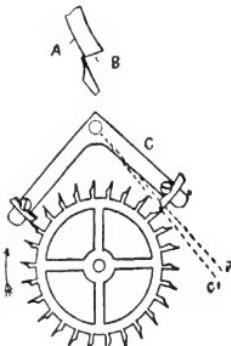

FIG. 62.—Vienna Regulator Dead-beat Escapement.
• The escapement is a "dead-beat," that is, between each beat the escape wheel stands still, the teeth points resting upon the "dead" faces of the pallets, instead of recoiling. Fig. 62 shows the escapement. The pallet arms C are of brass and have circular slots cut in them in which the steel pallets lie, held by clamping screws which permit them to be moved for adjusting the depth. In the enlarged view of one pallet and a tooth, the tooth point is shown resting upon the "dead" face A of a pallet. As this pallet moves outwards from the wheel, the tooth point escapes from the dead face and traverses the "impulse" face B, giving the pendulum an impulse. Another tooth then falls upon the dead face of the other pallet and so on. In adjusting the depth, see that the teeth points drop upon the "dead" faces and not upon the impulse faces of the pallets. This may be tested by placing a finger upon the crutch and leading it slowly across, watching